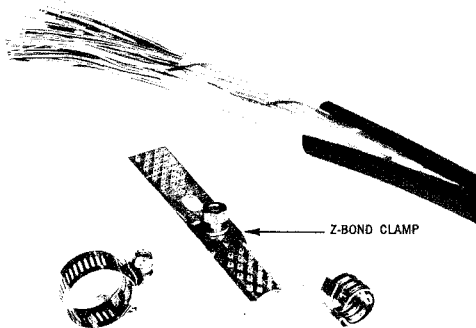

Fig. 1 — Material & Slit
- 4.05 Using B Tabbing Shears cut one longitudinal slit *ONLY* in the outer sheath and aluminum shield up to the Paper Tape Marker on the opposite side of the cable to where the Z Bond Clamp is to be installed. (See Fig. 1).